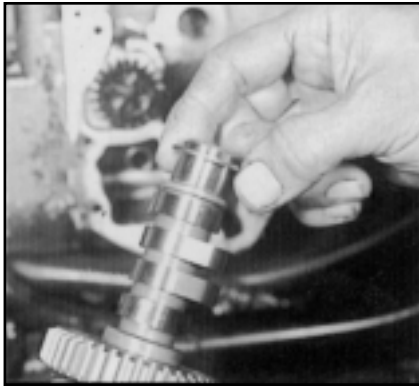
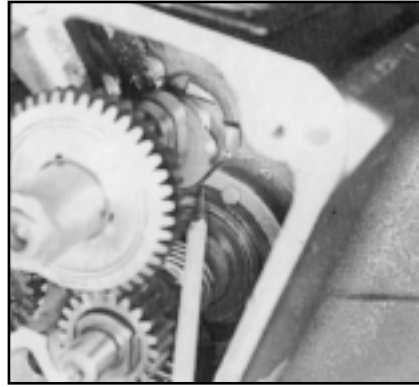

Fig. 13
Fig. 14
1. Install spacing washer and thrust washer on camshaft (Fig. 13). Install camshaft. Check to make sure the innermost lobe clears the engine case (Fig. 14). If not, clearance must be made by removing case material with a cutter or grinding wheel. Care must be taken to keep chips, or grindings, out of the cam bearing. The inside of the gear case must be thoroughly cleaned after any grinding process.